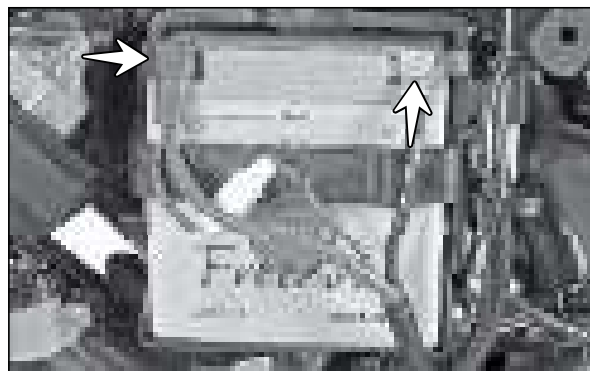

Fig. 3.124
- Disconnect both the terminals from the battery assembly. (Fig. 3.124)